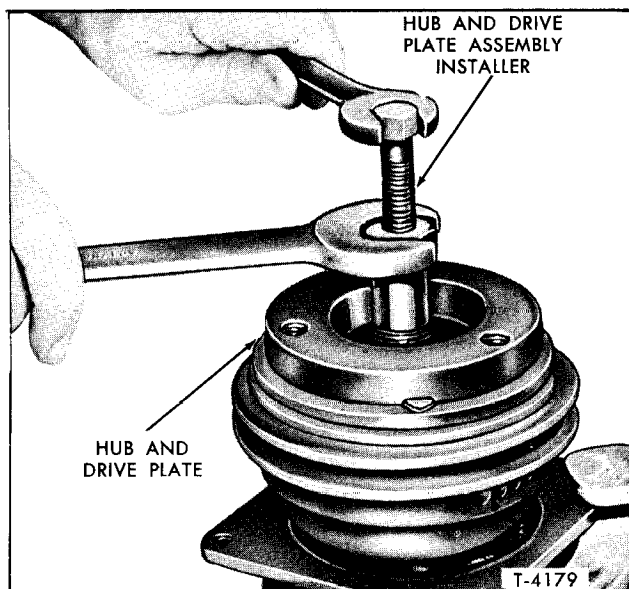

Figure 38-Installing Hub and Drive Plate Assembly
3. Using tool (J-9480-01, figure 38), install the hub and drive plate assembly. Pull the assembly onto the shaft until there is approximately $\frac{3}{32}$ " space between the frictional surfaces of the drive plate and pulley. (A ZERO thrust race is approximately $\frac{3}{32}$ " thickness and may be used to roughly gauge this operation.)